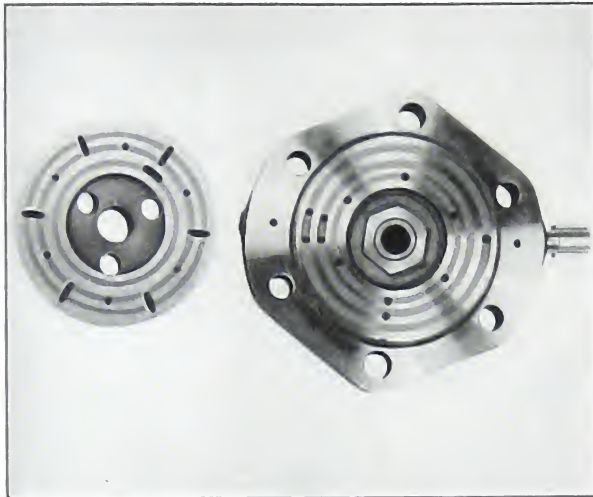

Fig. 5-23. Worn distributor disc and cover
7. The distributor disc and cover will show signs of wear, as shown in Figure 5-23, after a normal period of service. These discs and covers may be exchanged for reground sets from the factory.